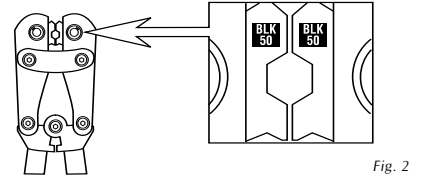

Fig. 2
4. Set dies of crimping tool for size connector you are using. Crimp tool die codes are printed on every battery connector. (Fig. 2) For Anderson contacts see instructions on IndustraCrimp tool or instruction booklet.
3. Insert bared wire into the compression nut until it seats. Copper wire should be flush with or extend slightly beyond compression nut. If battery cable you are repairing has an auxiliary wire, strip insulation 7/8" (22-25mm) & insert into the compression nut along with main starter cable. Fig. 2
- Shrink tube using electric heat gun or torch. An electric heat gun is safer than a torch. **USE INDIRECT HEAT ONLY. DO NOT OVERHEAT.** Fig. 2